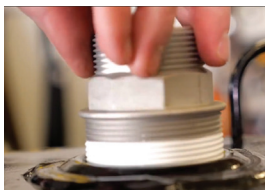

Figure 3
1. Wrap the 2" threaded end of the tank adapter with three or four turns of thread tape (see Figure 3). Using a pipe wrench, tighten the adapter snugly into the fuel tank.